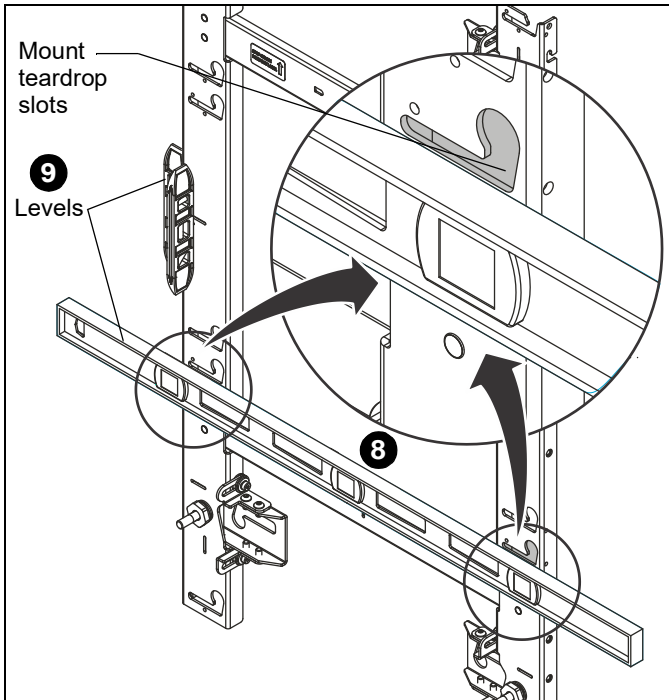

Figure 8
8. Place a level across front of the mount at bottom of teardrop slots. (See Figure 8)
9. Check the level of the mount at the teardrop slots. (See Figure 8)